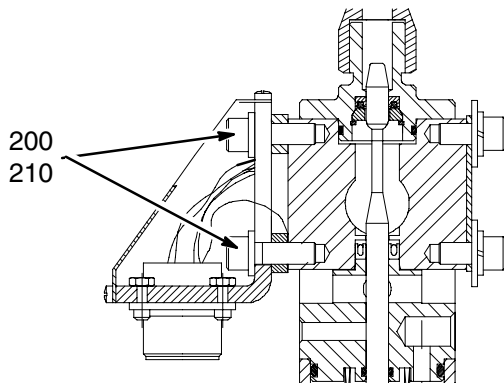

Fig. 14
- b. Remove the two socket head screws [Fig. 14, Item (200)], two washers (210). The heater cartridge (270) and sensor (320) will come out of the dispense valve body.
5. Reconnect the dispense valve to the receptacle (Figs. 14):
- a. Reattach the receptacle base to the dispense valve body and secure it with the two socket head screws [Fig. 14, Items (200) and washer (210)].